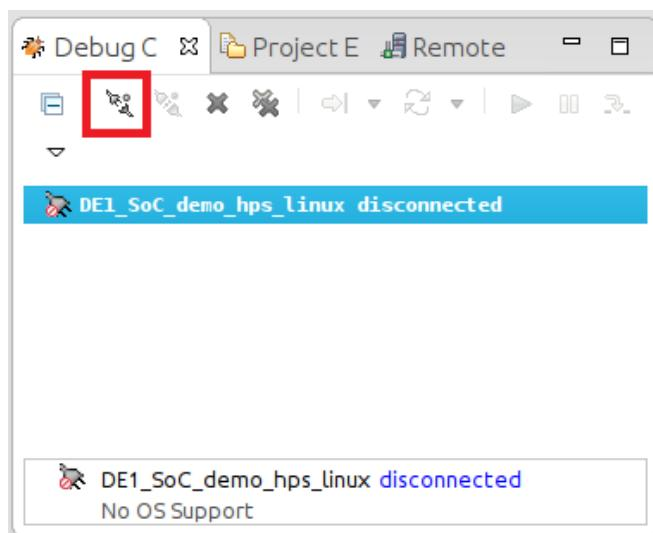

Figure 13-23. Debug Control View
27. In the "Debug Control" view, click on the "DE1\_SoC\_demo\_hps\_linux" entry, then click on the "Connect to Target" button, as shown on Figure 13-23. The debugger will start an SSH connection to the Linux distribution running on the DE1-SoC and will automatically transfer our binary file and wait at our application's "main()" function.